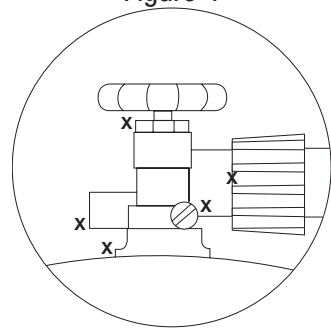

Figure 5
7. If igniter does not light burner, use a lit match secured with the lighting rod provided to light burners manually. Access the burners through the cooking grid and heat plates. Position the lit match near side of the burner. (Figure 5)